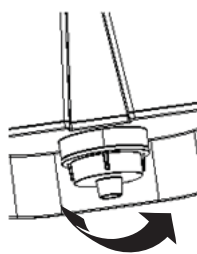

Figure 4
5. Once the filter is in place, return the charcoal water filter cartridge to the bottom of the water reservoir. Secure the cartridge using the winged cap by rotating the cap clockwise 90°. **DO NOT** over tighten the cartridge. See Figure: 4